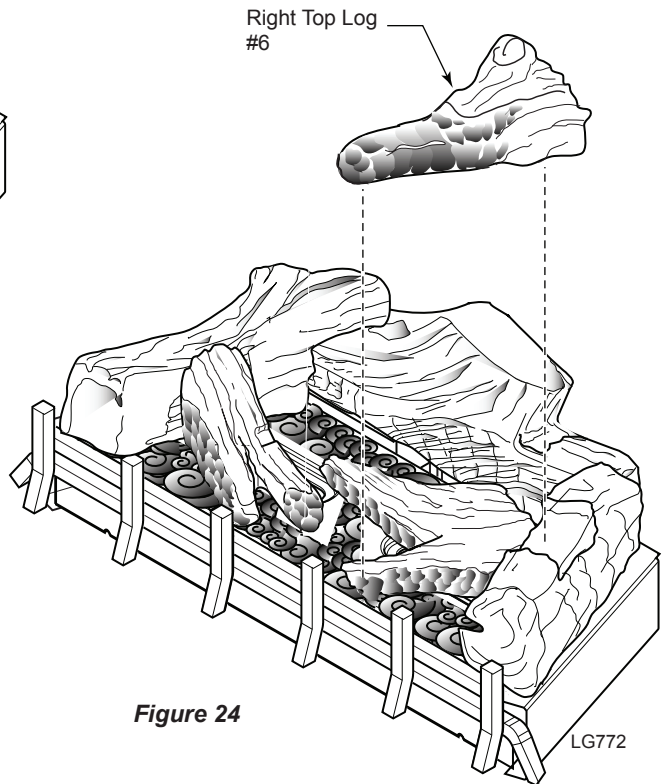

Figure 24
9. Place one end of right top log #6 on cutout of right base log. Align opposite end on right center log. *Figure 24*